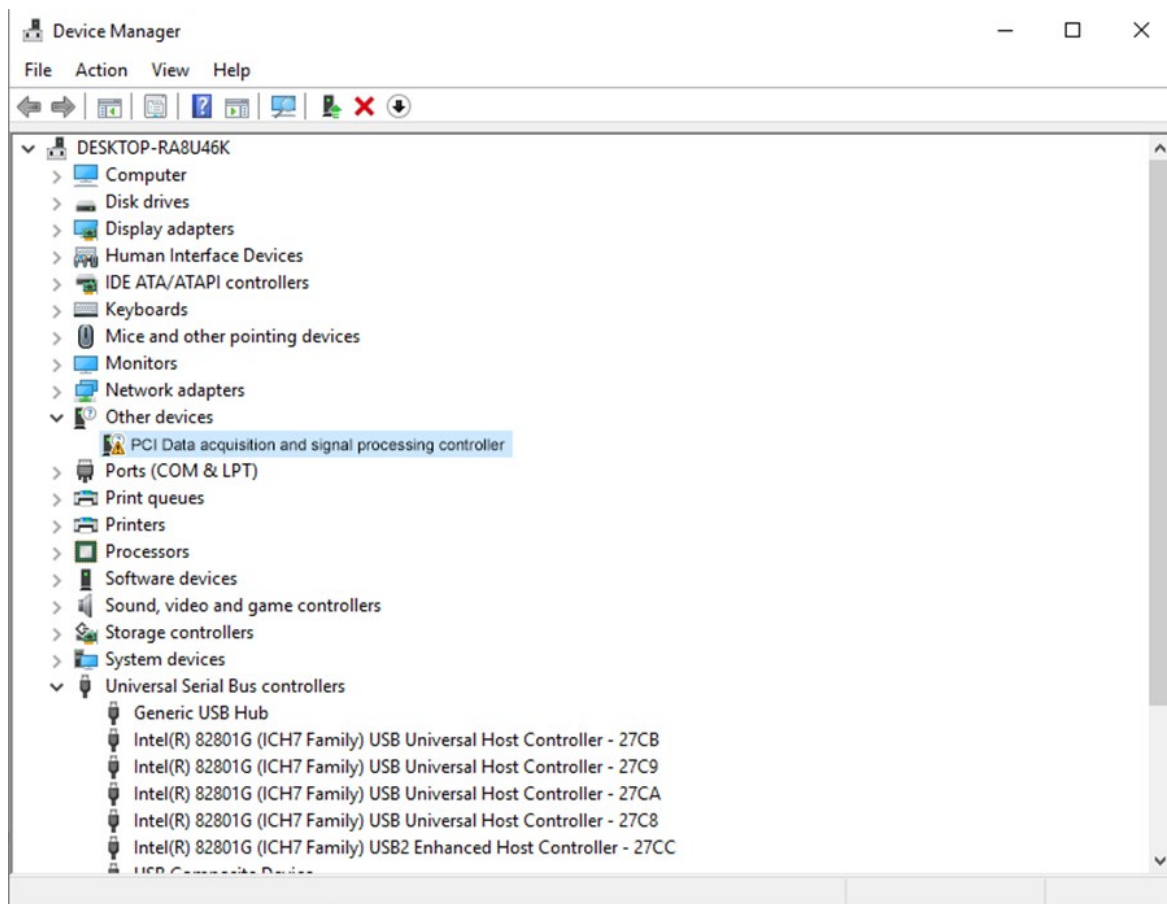

Figure 2.4 Before the driver is installed
- 1) Open the device manager of Windows operating system, and when the driver is not installed, it is displayed as "PCI Data Capture and Signal Processing Controller", as shown in Figure 2.4 below.